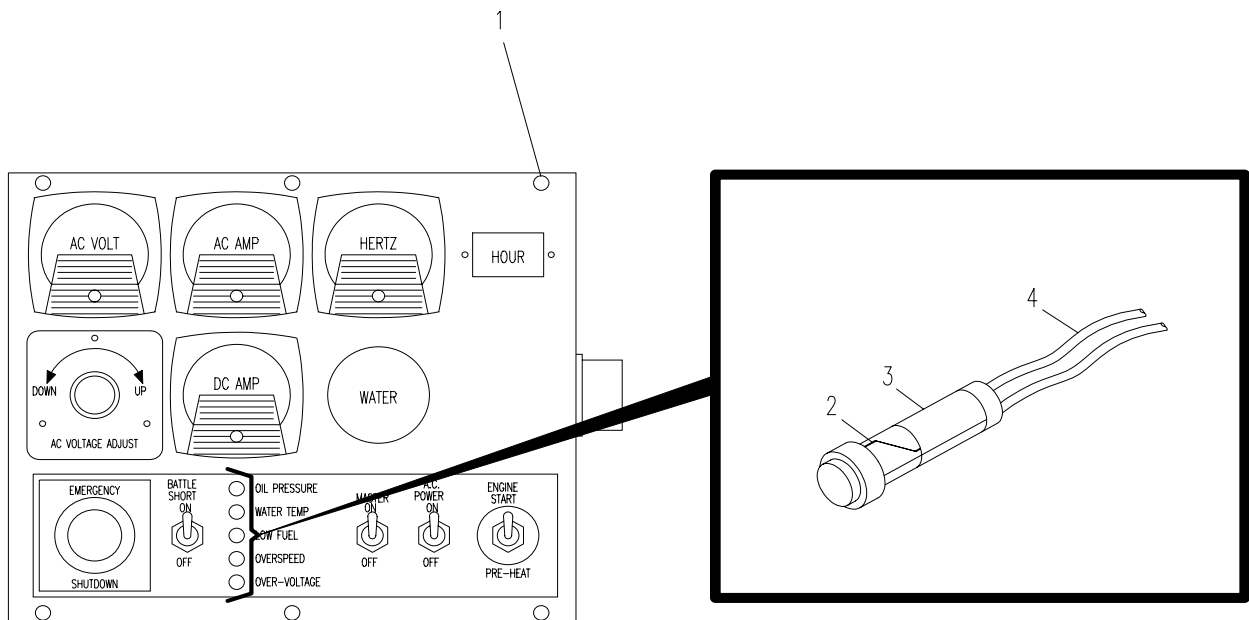

Figure 4-51. Indicator Lamps
- a. Remove ten screws (caged nuts (SICPS), machine screws (JTACS and WIN-T)) (1, Figure 4-51) securing APU control unit front cover to chassis and remove cover.
- b. At the rear of indicator light (3), identify and tag terminal leads (4).